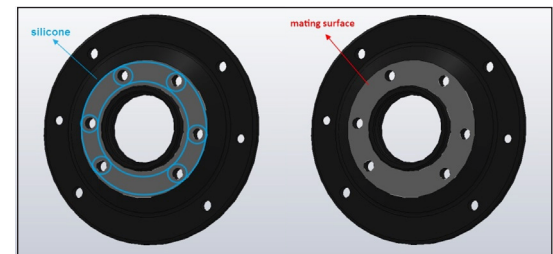
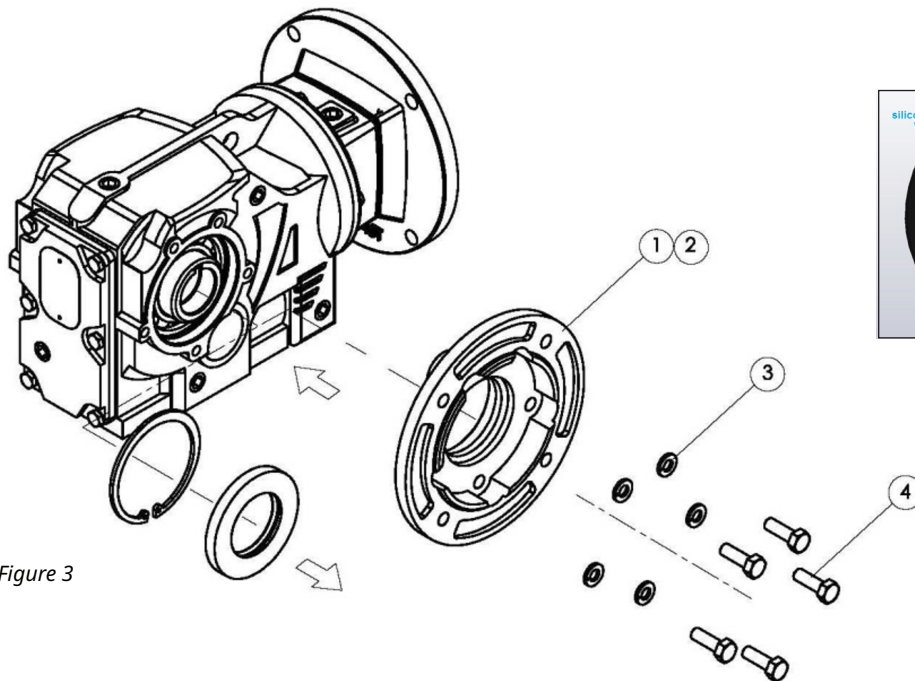

Figure 2
Figure 3
2. Apply silicone on the mating surface of output flange (Fig. 2); then install the output flange kit, parts 1-4 (Fig. 3)
2. Apply silicone on the mating surface of output flange; then install the output flange kit (Fig. 2).